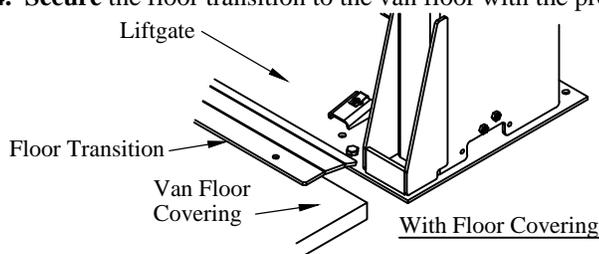

Figure 22: Floor transition.
1. **Position** the floor transition with one side on the liftgate and the other side on the van floor (Figure 22).